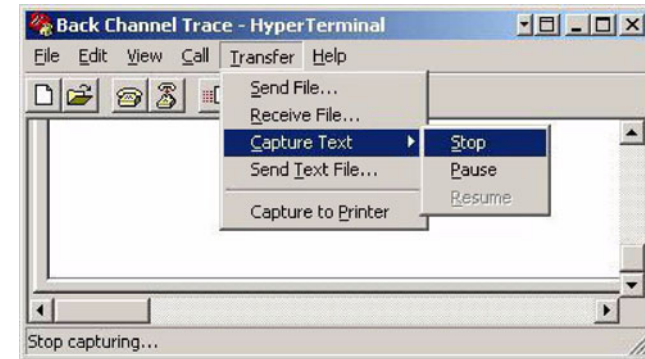

Figure 9 Saving The Trace
- Complete and save the trace by clicking on **Transfer > Capture Text > Stop** (Figure 9). The file will be saved to the location you specified in step 11.